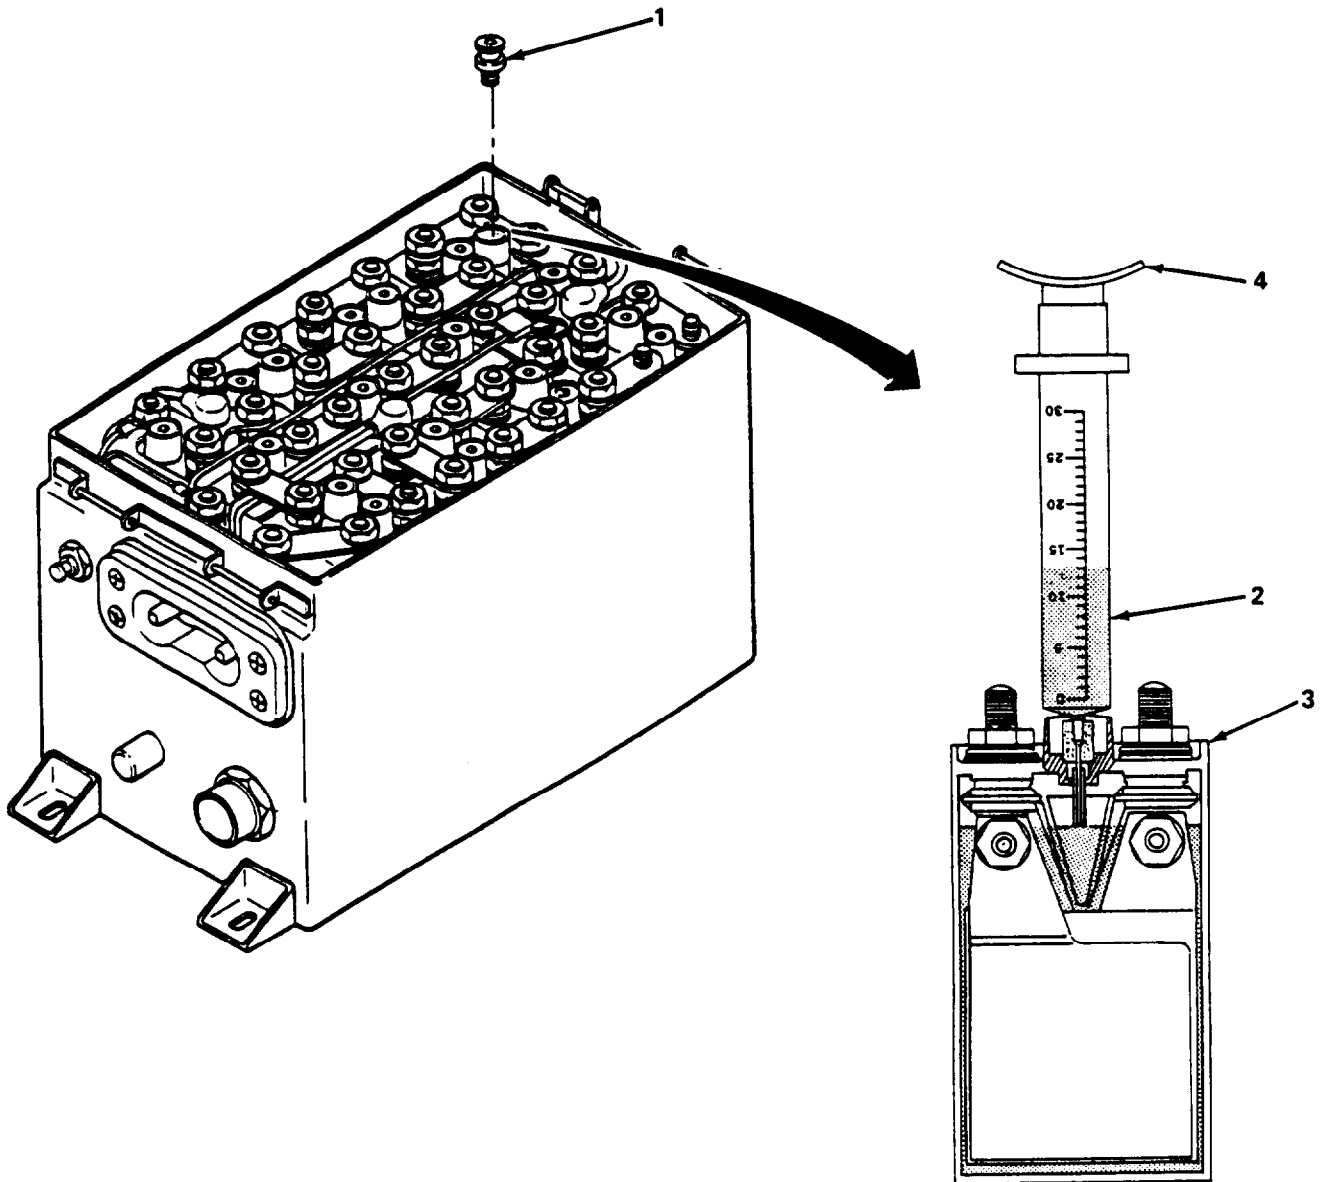

Figure 3-10. Electrolyte Level Adjustment, Battery BB-558/A.
b. Battery BB-558/A Electrolyte Adjustment Procedure (fig. 3-10).
- (1) Loosen filler caps (1) using special filler cap wrench that comes equipped with the battery.
- (2) After the battery is fully charged, overcharge at 1.7 amperes for 4 hours. During last 0.5 hour of overcharge at 1.7 amperes, check and adjust the electrolyte level using the syringe as shown in figure 3-10.
- (3) Install syringe (2) in cell (3) with plunger (4) fully depressed. The shoulder of the nozzle should rest on the vent valve seat as shown in figure 3-10.
- (4) Withdrawn plunger (4) part way and check for electrolyte in syringe.
- (5) If electrolyte is drawn into syringe, then the electrolyte level in the cell is too high. Withdraw plunger until no additional electrolyte is withdrawn. The electrolyte level is now adjusted properly. Proceed to step 11.
- (6) If electrolyte is not drawn into syringe, electrolyte level is too low. Remove syringe from cell.
- (7) Draw a measured amount, approximately 5cc of distilled water (item 4, Appendix C) into syringe.
- (8) Install syringe (2) in cell (3) and depress plunger fully.
- (9) Withdraw plunger (4) part way and check for electrolyte in syringe. If electrolyte is drawn into syringe, continue to withdraw plunger until no additional electrolyte is drawn into the syringe. Remove syringe and proceed to step 10.
- (10) Repeat steps (7) through (9) if electrolyte is not drawn into syringe (2).
- (11) Repeat steps (3) through (5) for remaining cells.
- (12) Install all filler caps (1) and tighten using special filler cap wrench.
- (13) Thoroughly rinse out syringe.